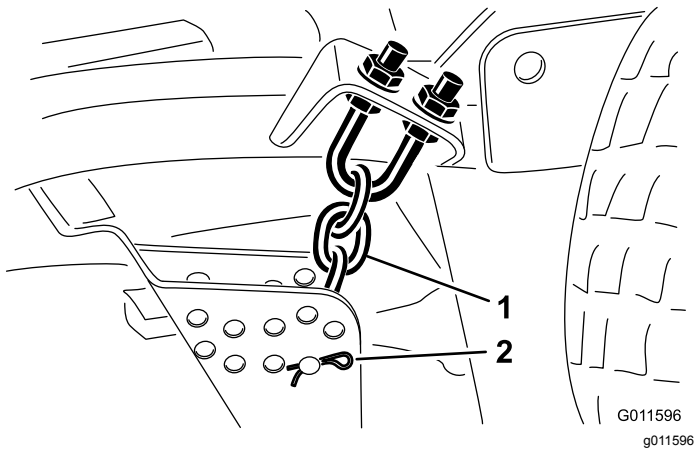

Figure 20
5. Remove the hairpin cotter and clevis pin securing the height-of-cut chains to the rear of the cutting unit (Figure 20).